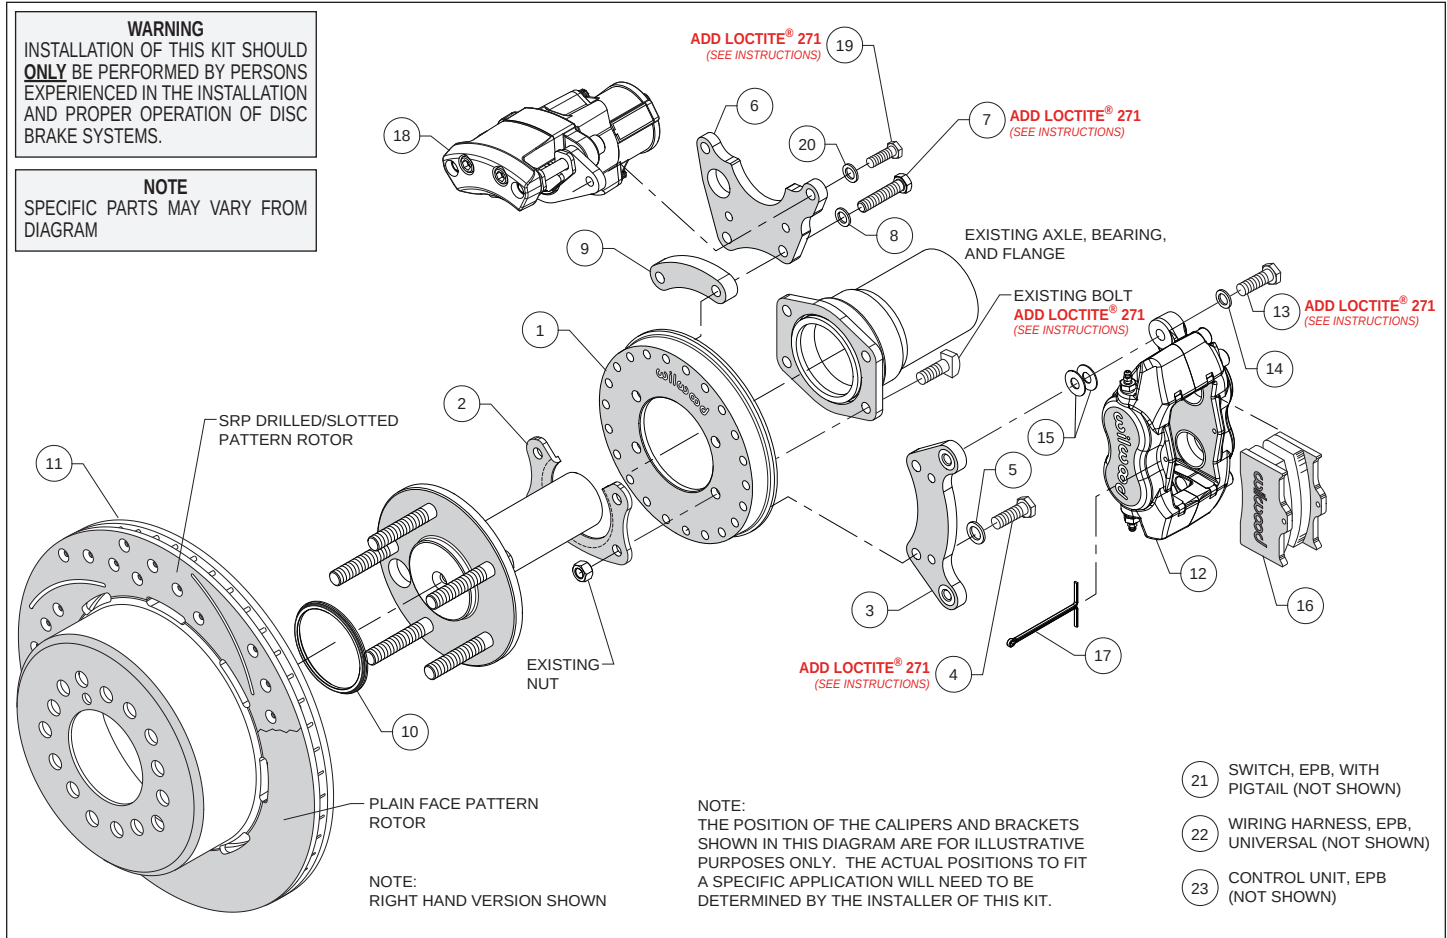
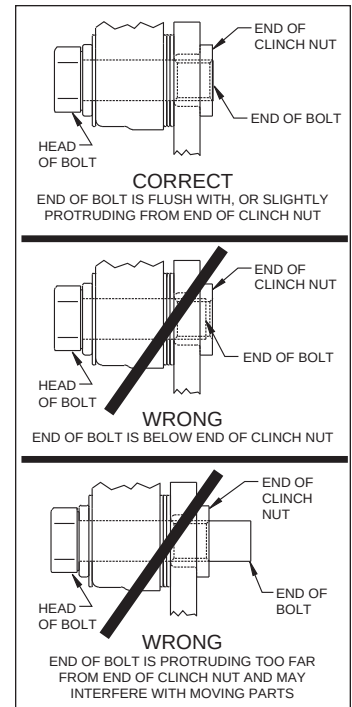

Figure 1. Typical Installation Configuration
Figure 5. Clinch Nut Engagement Diagram
(numbers in parenthesis refer to the parts list, and Figure 1 on the preceding pages):
CAUTION: All mounting bolts must fully engage clinch nuts. Be sure to check that all bolts are either flush or protruding through flanged side of clinch nut after shimming, Figure 5.
- Orient the backing plate (1) as shown in Figure 1 and Photo 1, and slide it onto the axle housing flange. Ensure the backing plate fits flush against the axle housing flange. Reinstall the axle into the axle housing.
- Install the bearing retainer (2) with the opening pointing upward and the lip facing inward (toward the bearing), as shown in Figures 1 and 4, and Photo 2. Secure retainer and backing plate to the axle housing flange using the Original Equipment Manufacturer (OEM) bolts and nuts, Figure 1 and Photo 3. Apply red *Loctite*® 271 to the OEM bolt threads and torque to OEM specifications.
- Start by determining the best location for the service caliper (12). This caliper is usually mounted in the 3:00 or 9:00 o'clock position, but may be rotated up or down approximately 45 degrees and still allow for proper bleeding, Photo 4. Orient the service caliper bracket (3) as shown in Figure 1 and Photo 5, and install to the backing plate (1) in the desired location using bolts (4) and washers (5). Temporarily tighten bolts. Next, mount the service caliper to the bracket using bolts (13) and washers (14). Temporarily tighten bolts. Check that the caliper (including inlet fitting and hose) has sufficient clearance to all surrounding components through the full suspension travel. Relocate the caliper/bracket on the backing plate as needed to ensure proper clearance is achieved.
- Determine the best location for the EPB caliper (18). **NOTE:** *The EPB caliper motor extends farther inboard than the service caliper and therefore needs additional consideration when determining a mounting location with sufficient clearance.* In the example application shown in Photo 6, the EPB caliper has sufficient inboard clearance to the leaf spring. However, if the EPB caliper were mounted closer to the 12:00 o'clock position, the inner body of the vehicle would hit the caliper during full compression of the suspension.
•Orient the EPB caliper bracket (6) as shown in Figure 1 and Photo 7, and install to the backing plate (1) in the desired location using bolts (7), washers (8), and spacer (9). Temporarily tighten bolts. **NOTE:** The EPB bracket is reversible. In one direction the bracket will position the EPB caliper closer to the service caliper, and vice versa if reversing the bracket. Next, mount the EPB caliper (18) to the bracket using bolts (19) and washers (20). Temporarily tighten bolts. **NOTE:** EPB calipers are Left and Right handed, however they can be used on either side of the vehicle to best suit your specific application. Check that the EPB caliper (including wiring harness connector) has sufficient clearance to all surrounding components through the full suspension travel. Relocate the EPB caliper/bracket on the backing plate as needed to ensure proper clearance is achieved.
•Once the caliper positions have been determined, remove both the service (12) and EPB (18) calipers, leaving both brackets in place on the backing plate. For both brackets, remove the bolts one at a time, apply red *Loctite*® 271 to the threads, and torque to 35 ft-lb.
•Slide the rotor registration adapter (10) onto the register on the axle flange with the smaller O.D. facing toward the rotor/hat (11), Photo 8. Align the correct hole pattern in the rotor/hat with the stud pattern on the axle flange and slide into place, Figure 1. **NOTE:** The rotor/hat must fit flush against the axle flange or excessive rotor run out may result. Install three lug nuts (finger tight) to keep the rotor/hat assembly in place while continuing with the installation. **NOTE:** Some OEM and after market axles come with stud sizes larger than 0.50" diameter. Verify stud size and have a qualified machine shop drill the bolt circle of the hat/rotor to the correct stud size, if necessary.
•**NOTE:** Please reference the caution statement at the beginning of the assembly instructions. Remount the service caliper (12) onto the caliper mounting bracket (3) using bolts (13) and washers (14), as shown in Figure 1. Initially place two .035" thick shims (15) on each bolt between the caliper and the bracket, Photo 9. Temporarily tighten the mounting bolts and view the rotor (11) through the top opening of the caliper. The rotor should be centered in the caliper, Photo 10. If not, adjust by adding or subtracting shims (15) between the bracket (3) and the caliper (12). Always use the same amount of shims on each of the two mounting bolts. **NOTE:** The end of each bolt must be flush with or slightly protruding from the head of the clinch nut, as shown in Figure 5. If necessary place spare shims (15) between washer (14) and caliper mounting ear to achieve the proper clinch nut engagement. Once the caliper alignment and clinch nut engagement are correct, remove the bolts one at a time, apply red *Loctite*® 271 to bolt threads, and torque to 40 ft-lb.
- Mount the EPB caliper (18) onto the caliper mounting bracket (6) using bolts (19) and washers (20), Figure 1. Apply red *Loctite*® 271 to bolt threads, and torque to 30 ft-lb.
- NOTE:** *The service caliper (12) in this brake kit utilizes a 1/8-27 NPT pipe thread inlet. OEM rubber brake hoses generally cannot be adapted to Wilwood calipers. The preferred method is to use steel adapter fittings at the caliper, either straight, 45 or 90 degree and enough steel braided line to allow for full suspension travel. **Carefully route hoses to prevent contact with moving suspension, brake or wheel components.** NOTE: Wilwood hose kits are designed for use in many different vehicle applications and it is the installer's responsibility to properly route and ensure adequate clearance and retention for brake hose components. Wilwood offers universal brake flex line hose kits, domestic (3/8-24 IF) chassis fittings, order:*